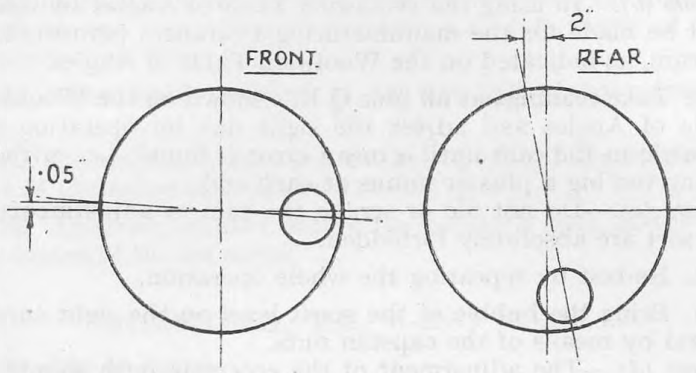

Fig. 2.
52. Set the sight carrier adjusting studs in the positions indicated in **FIG. 2**.